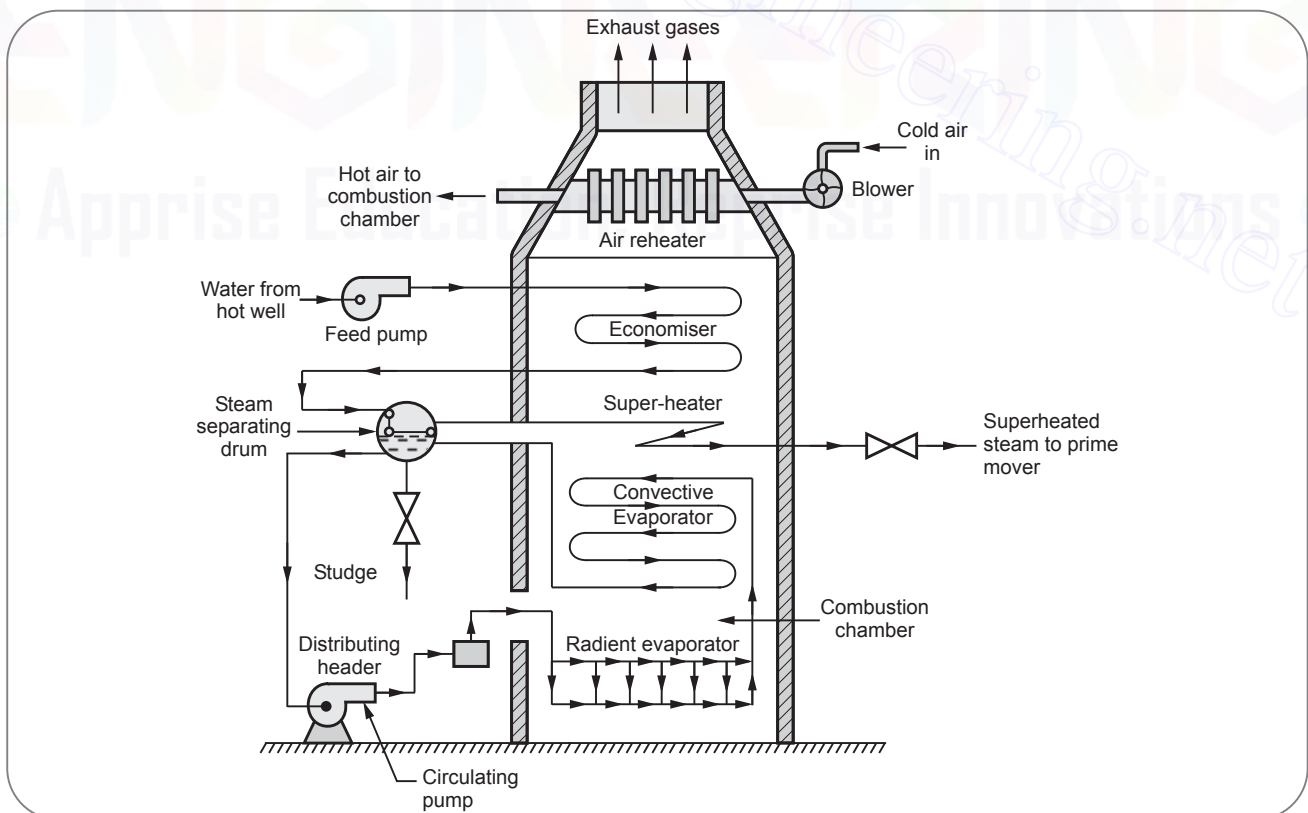

Fig. 2.6 : La Mont boiler
- Fig. 2.6 shows the arrangement of La Mont boiler.